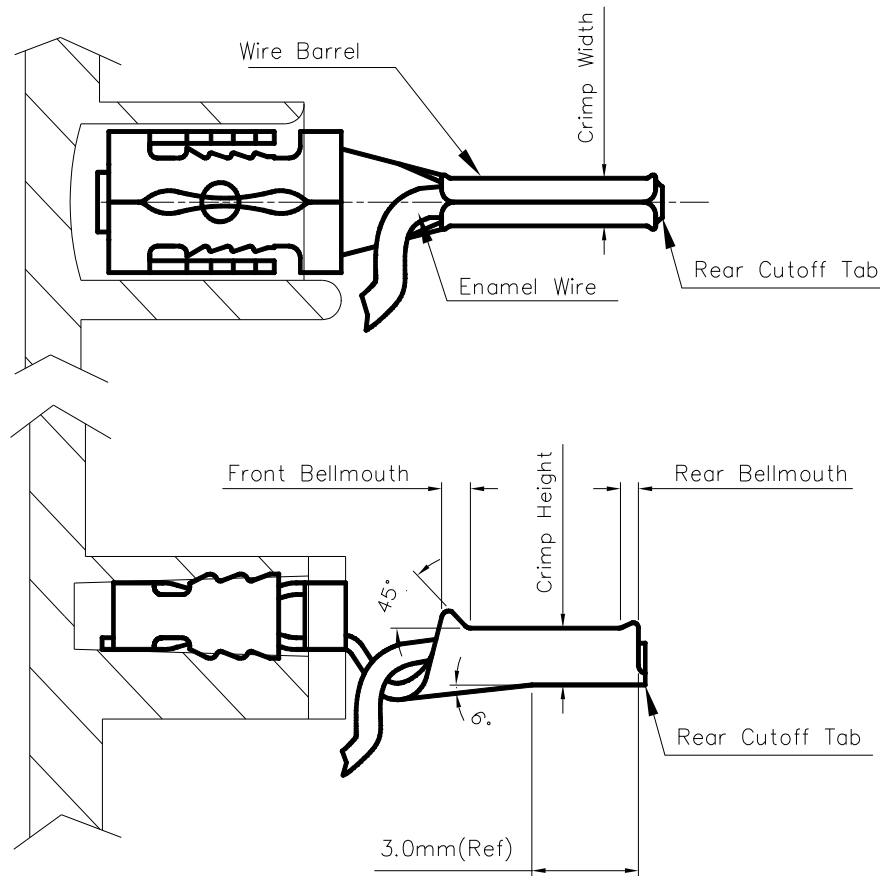

Figure 4
-Rear cutoff tab shall not exceed 0.15mm. The tab shall be centered at the crimp width as shown in figure 4.